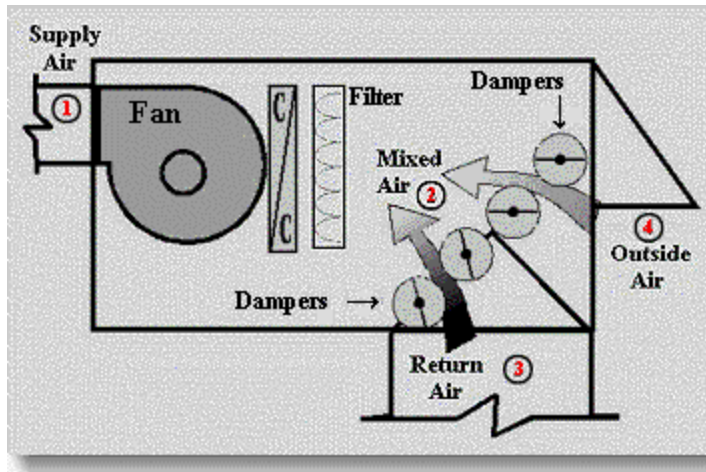

Figure 1 Diagram of a rooftop AC unit
**Step 2:** Place the Hobo XT thermistor tips in different air chambers (Figure 1). The loggers should be fastened securely with duct tape as the air at high speeds within the unit can lift the loggers away. Insure that the thermistor is suspended in the air chamber and not touching heating/cooling coil or other surfaces. If you are conducting long-term studies, consider securing the logger in such a way that provides easy access to the cable port.
**Supply Air Temperature [SAT] (1).** Place a HOBO downstream of the cooling coil.
**Mixed Air Temperature [MAT] (2).** Place a logger in the mixed air stream. It is important that the sensor is in a well-mixed location as far downstream from the mixing dampers as possible without being too close to the cooling coil.
**Return Air Temperature [RAT] (3).** Place a HOBO in the return air upstream of the mixed air dampers.
**Outside Air Temperature [OAT] (4).** Place a logger in a protected location near the outside air grill. Avoid a location where the sensor will receive direct sun. If you cannot find an ideal location, shield the sensor with aluminum foil to block direct sun allowing air to flow around the sensor while making no contact with it.